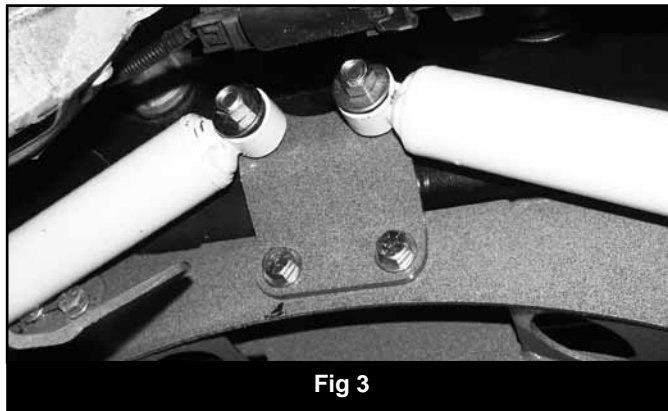

Fig 3
5. Install the steering stabilizers/center mounting bracket in the vehicle. Place the stabilizers on top of the lower control arms and line up the two bottom holes in the center bracket with the two corresponding holes in the BDS front crossmember. The center bracket should be offsetting the cylinders rearward. Fasten the bracket to the crossmember with $\frac{1}{2}$ " x 1-1/4" bolts, nuts and $\frac{1}{2}$ " SAE washers (Fig 3). Torque $\frac{1}{2}$ " x 1-1/4" bolts to 60 ft-lbs.